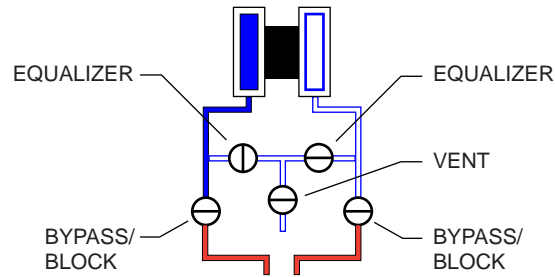

Figure 2.18—Valve positions for differential pressure calibration
1. Close the bypass valves to isolate the pressure below the manifold (Figure 2.18, page 53).